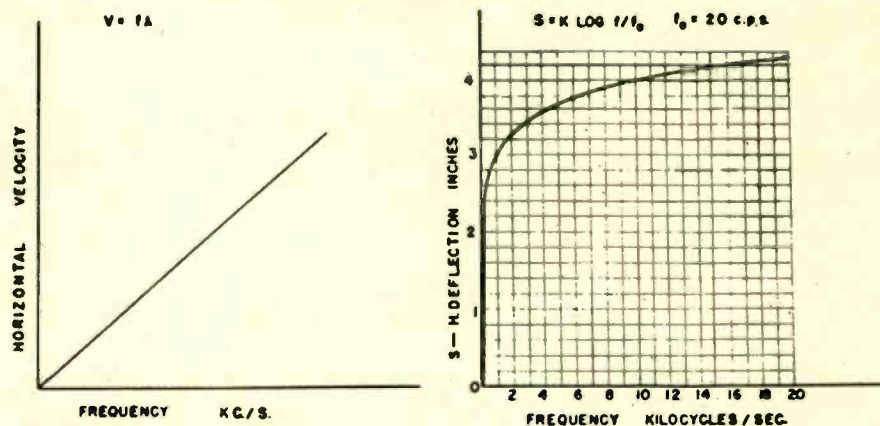

Fig. 7A (left) and 7B (right). Curves of Equations (1) and (2) showing conditions imposed on sweep velocity and frequency-scale division.
where f is the frequency at any point on the horizontal scale, λ is a constant wavelength, and v is the instantaneous horizontal spot velocity at the point. Equation (1) is illustrated in the plot of Fig. 7A.